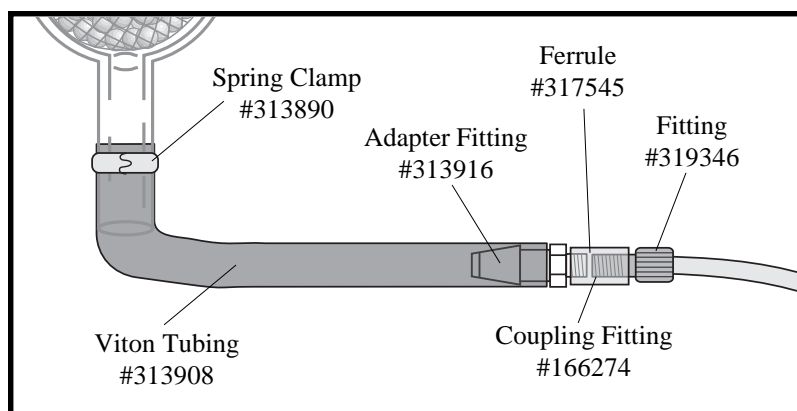

Figure 3.3. Combustion Tube Outlet Assembly
11. Place a few drops of reagent water on the end of the adapter fitting (Part #313916) and slide it into the Viton tubing. See Figure 3.3.
12. Attach the coupling fitting (Part #166274) to the adapter fitting. Place the ferrule (Part #317545) on the end of the yellow fitting (Part #319346) on the yellow combustion tubing. Screw the yellow fitting and ferrule into the coupling fitting. (See Figure 3.3)
11. Place a few drops of D.I. water on the end of the adapter fitting (Part #313916) and slide it into the Viton tubing. See Figure 3.3.
12. Attach the coupling fitting (Part #166274) to the adapter fitting. Place the ferrule (Part #317545) on the end of the yellow fitting (Part #319346) on the yellow combustion tubing. Screw the yellow fitting and ferrule into the coupling fitting. See Figure 3.3.